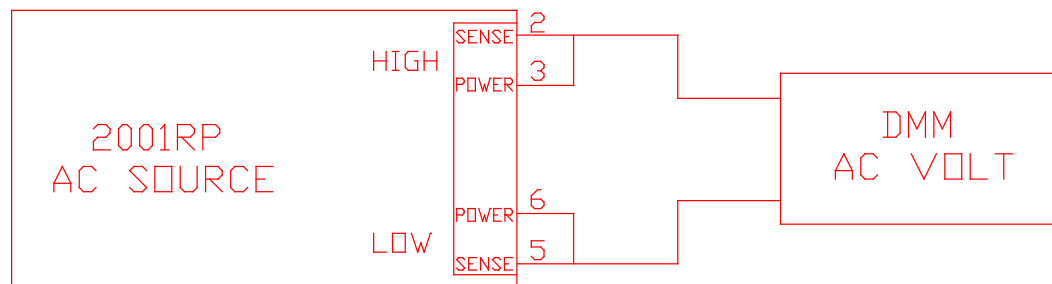

Figure 6-1: Test Equipment Hookup for Routine Output and Voltage Measurement Calibration
Connect the test equipment to the power source as shown in Figure 6-1. The DMM can be connected to the common output terminal at the rear of the unit.
1. Connect the test equipment to the power source as shown in Figure 6-1.
1. Connect the test equipment to the power source as shown in Figure 6-1. Do not connect the load.
1. Connect the test equipment to the power source as shown in Figure 6-1. **Do not** connect any load during this step. Voltage calibration must be done under no load conditions.
Connect the test equipment as shown in Figure 6-1.